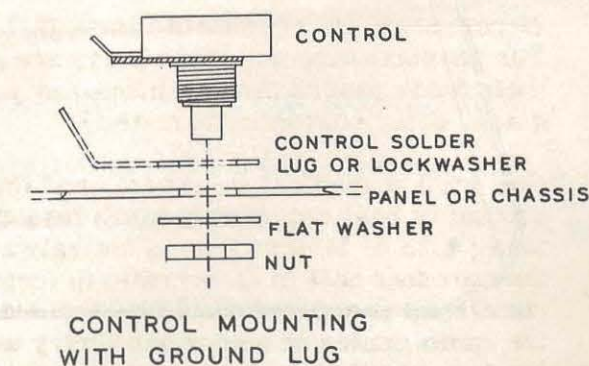

Figure 4
- (✓) Mount the 1 megohm SPOT SHAPE control QQ, following Figure 4 for assembly details. Use a control solder lug, QQG, in place of a lockwasher.